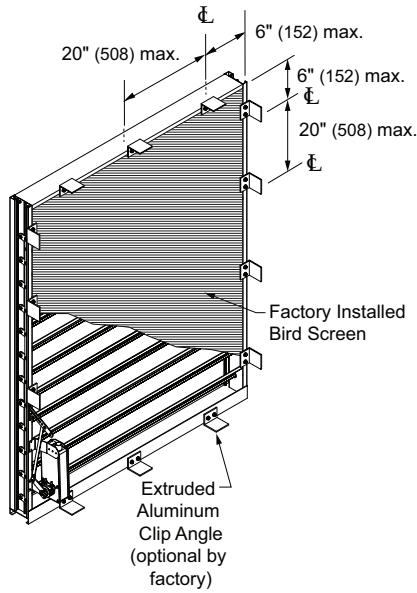

Fig. 2.1 Clip Angle - Single Section Louver
1. Locate and anchor clip angles as required to establish proper louver depth and position. See fig. 2.1 for required spacing. (Clip angles are by others or optional by Pottorff).